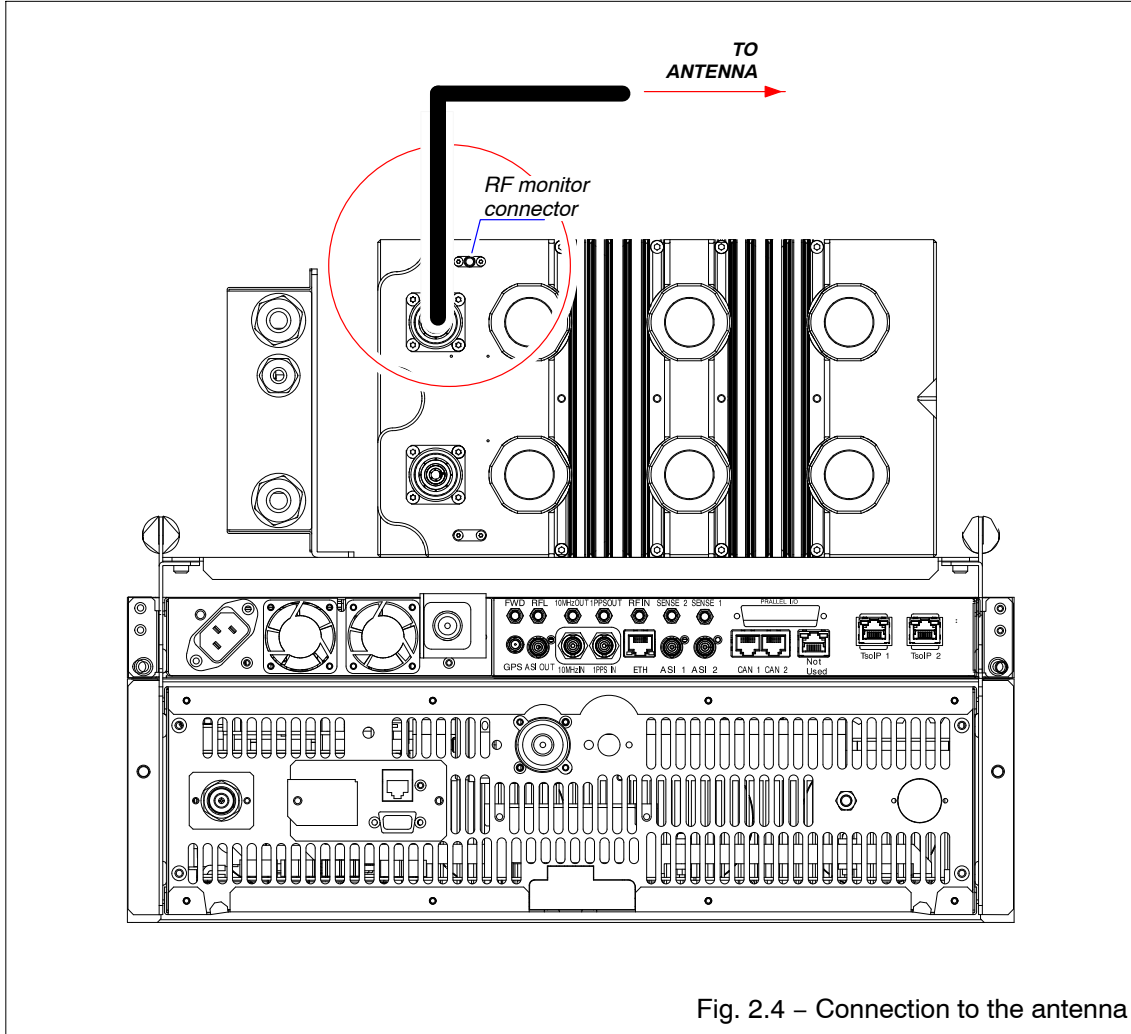

Fig. 2.4 – Connection to the antenna
2.2.3 Connection to the antenna (refer to Fig. 2.4)